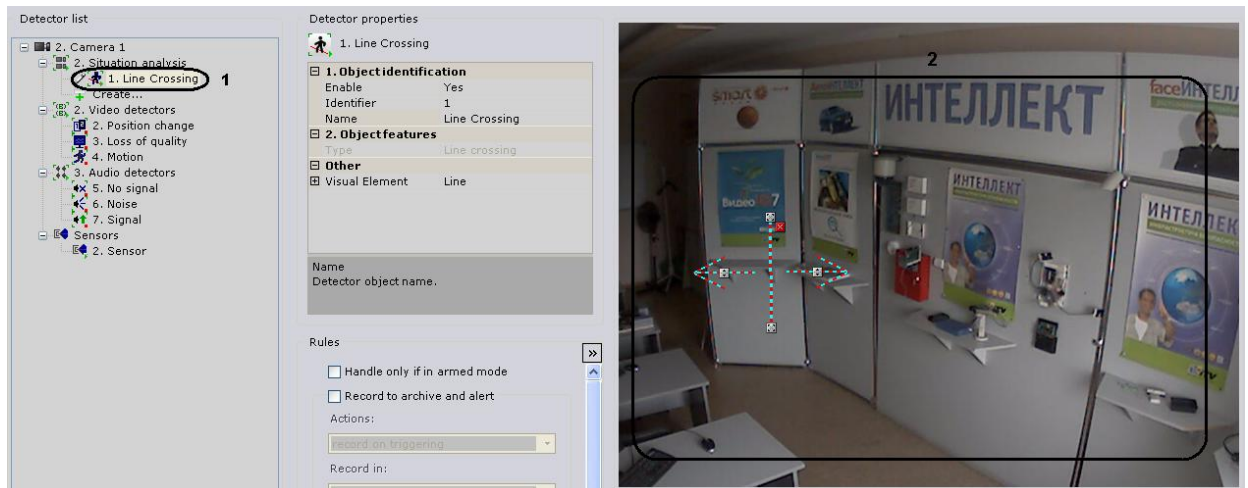

Fig. 6.4—8 Setting a line
1. In the list of detectors, highlight a **Line crossing** object (Fig. 6.4—8, 1).
- In the viewing tile (see Fig. 6.4—8, 2), set the end points of a line which, when something crosses it, will trigger the line crossing detector (Table 6.4—4).
*NOTE. When the line is being constructed, the end points are connected by a two-color dotted line. The direction of the object's motion across the line is indicated by dotted arrows (see Fig. 6.4—8, 2).*